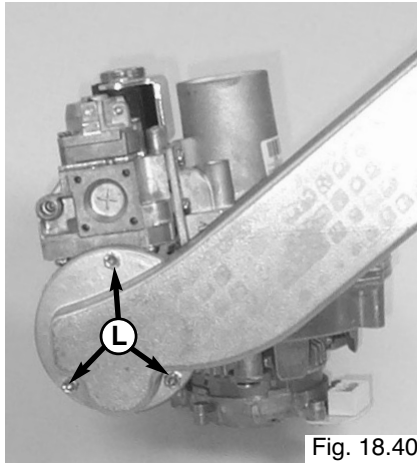

Fig. 18.40
3. Unscrew the three screws "L" on the air/gas pipe and remove (Fig. 18.40);